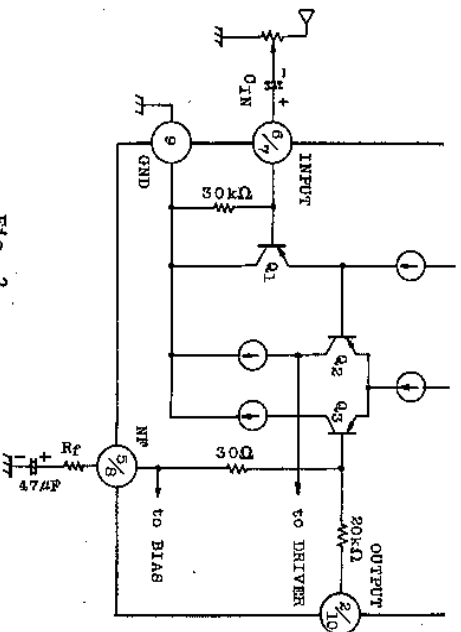

Fig. 2
The input circuit of this IC is as shown in Fig. 2. PNP Tr: Q1 is provided in the input circuit so as to make its usage possible without the input coupling capacitor. However, at pins ⑥ and ⑦, max 60mV offset voltage is produced.